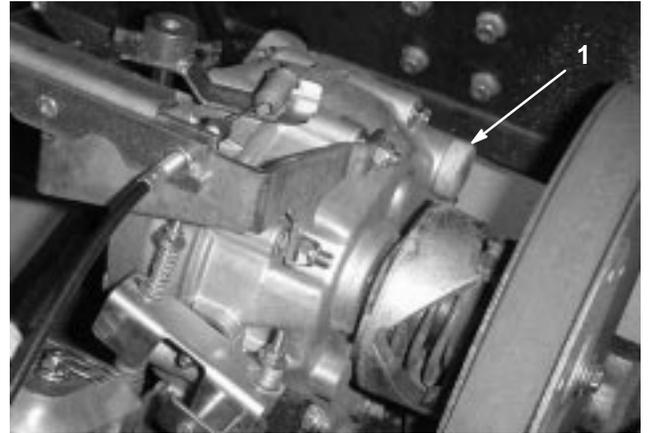

Figure 41
3. Fill the reservoir (Fig. 41) with approximately 1-1/2 qt. (1.4 liters) of SAE 10W30 motor oil or until the oil level is at the bottom of the level indicator hole (Fig. 40).